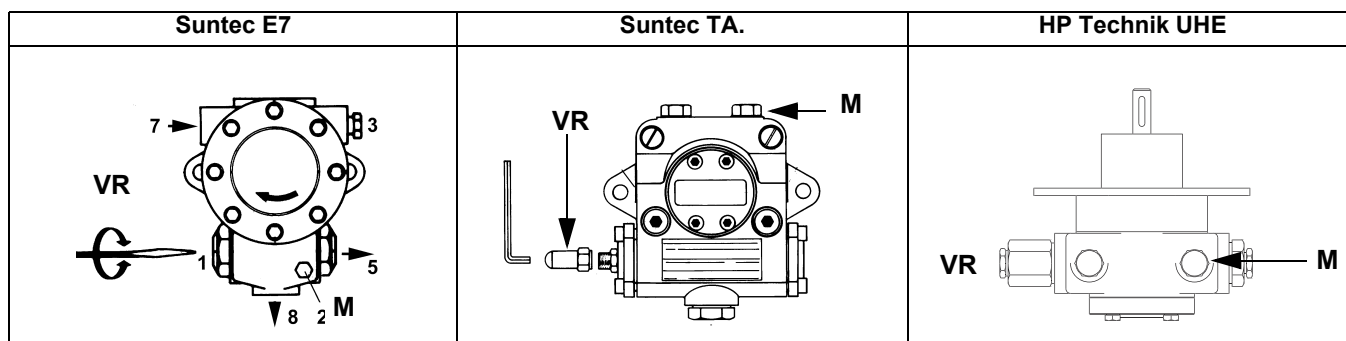
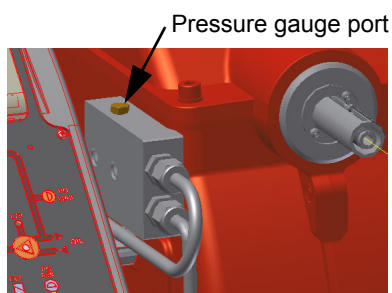

Fig. 26
Fig. 27
- 3 bleed the air from the **M** pressure gauge port (Fig. 26) by loosening the cap without removing it, then release the contactor.
- 5 Only if necessary, adjust the supply pressure as follows (see related paragraph); insert a pressure gauge into the port shown on Fig. 27 and act on the pump adjusting screw **VR** (see Fig. 26) as to get the nozzle pressure at 20bar (Monarch or Fluidics nozzles - see page 41-38).